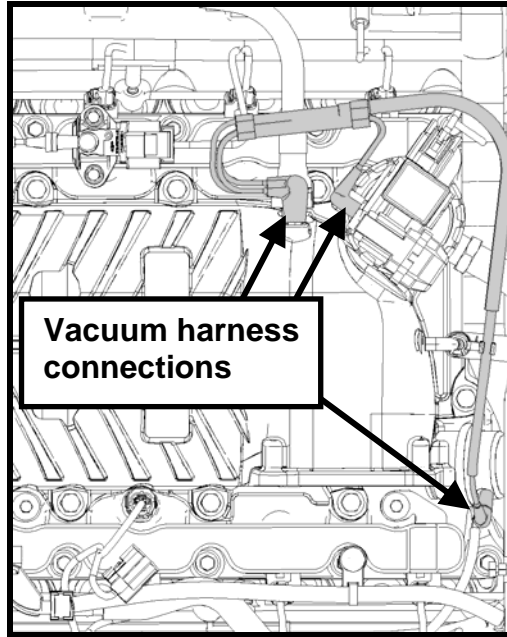

Fig. 24
**STEP 8:** Re-install the vacuum harness to the ESM, supercharger and supercharger bypass actuator (See Fig. 24). **NOTE:** Ensure the harness is properly routed and all connections are fully seated.